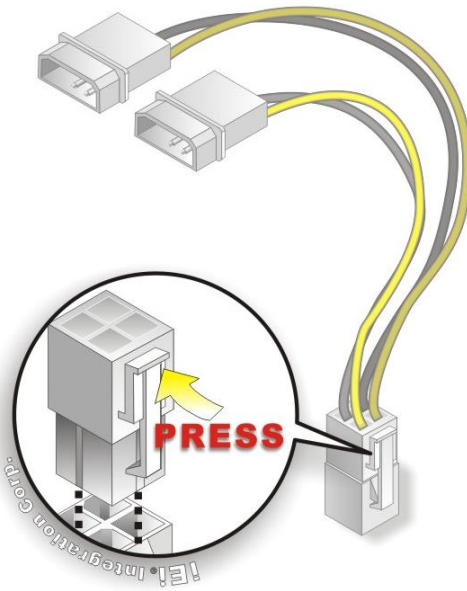

Figure 4-9: Power Cable to Motherboard Connection
Step 2: **Connect the power cable to the motherboard.** Connect the 4-pin (2x2) Molex type power cable connector to the power connector on the motherboard. See Figure 4-9